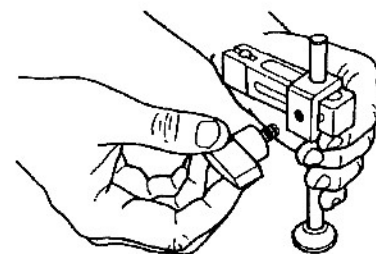

Fig. 64
72. Screw in the clamp knob (354), as illustrated in Fig. 64.